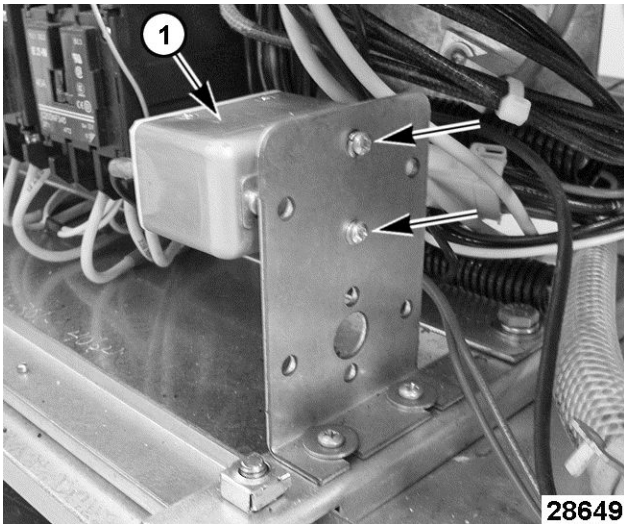

Fig. 36
9. Remove high-limit thermostat [1] Fig. 36 from mounting bracket.